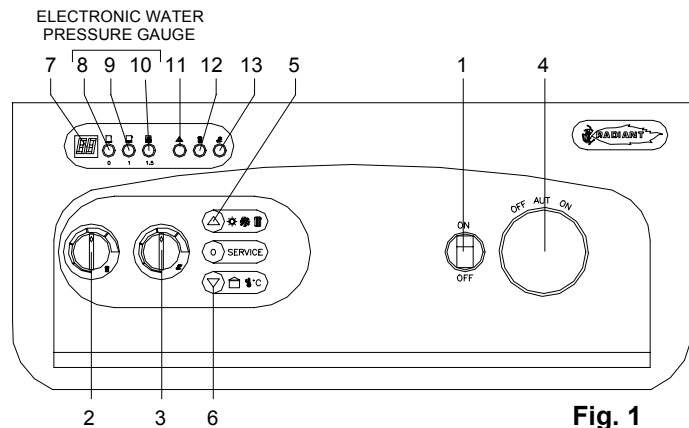

Fig. 1
- ⇒ **The anti-freeze system will come into operation only if the ON/OFF switch 1 (see fig.1) is ON position and the gas supply turned on. The manufacturer can accept no responsibility for damage to the boiler caused by lack of observation of these requirements.**
LEGEND (see fig. 1)
- make sure that display light is ON (see fig. 1) and the no.9 or no.10 lights are ON (see fig. 1); if light no.8 flashes, it means water deficiency in the system: open the filling tap located under the boiler and fill the system until a pressure of 1.5 bar has been reached (light no.10 ON; see fig. 1) and then close the filling tap.
It may be necessary to repeat the procedure a few times to purge air from the pipes. Set the ON/OFF switch 1 (see fig.1) to OFF and then ON position and try the ignition procedure once again. If the boiler does not start, reset boiler and set the ON/OFF switch 1 to OFF and then ON position.
- set the ON/OFF switch 1 (see fig.1) to ON;
- make sure that display light is ON (see fig. 1 pag. I) and the no.9 or no.10 lights are ON (see fig. 1 pag. I); if light no.8 flashes, it means water deficiency in the system: open the filling tap located under the boiler and fill the system until a pressure of 1.5 bar has been reached (light no.10 ON; see fig. 1 pag. I) and then **close the tap on the filling loop**.
Summer-winter use (see fig. 1 pag. I).
Push Pad 5 (fig. 1) to select WINTER ONLY program – Led 12 ON for heating only Mode or SUMMER ONLY program – Led 13 ON for water only Mode or SUMMER and WINTER program Led 12 – 13 both ON for heating and hot water mode.
The heating temperature is regulated by turning knob 2 (see fig. 1 pag. I).
The hot water temperature is regulated by turning knob 3 (see fig. 1 pag. I).
If boiler locks-out (fig. 1 page I, indicator no.11 ON) and intermittent error code on the display :
- Set the ON/OFF switch 1 to OFF and then ON position (see fig.1 page I)